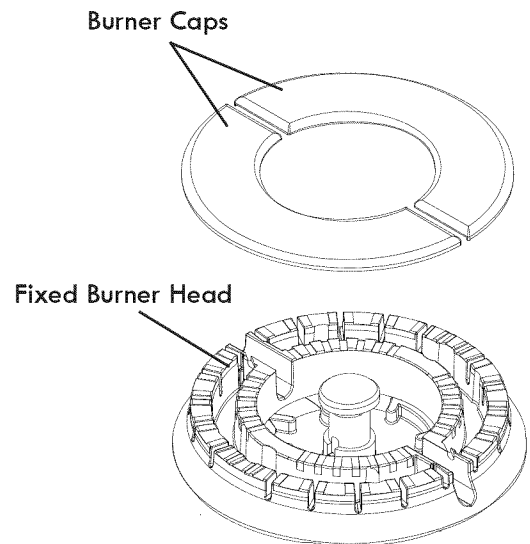

Figure 2
3. To install Burner Caps, refer to figure 2 and make sure both caps are aligned properly with the burner head.